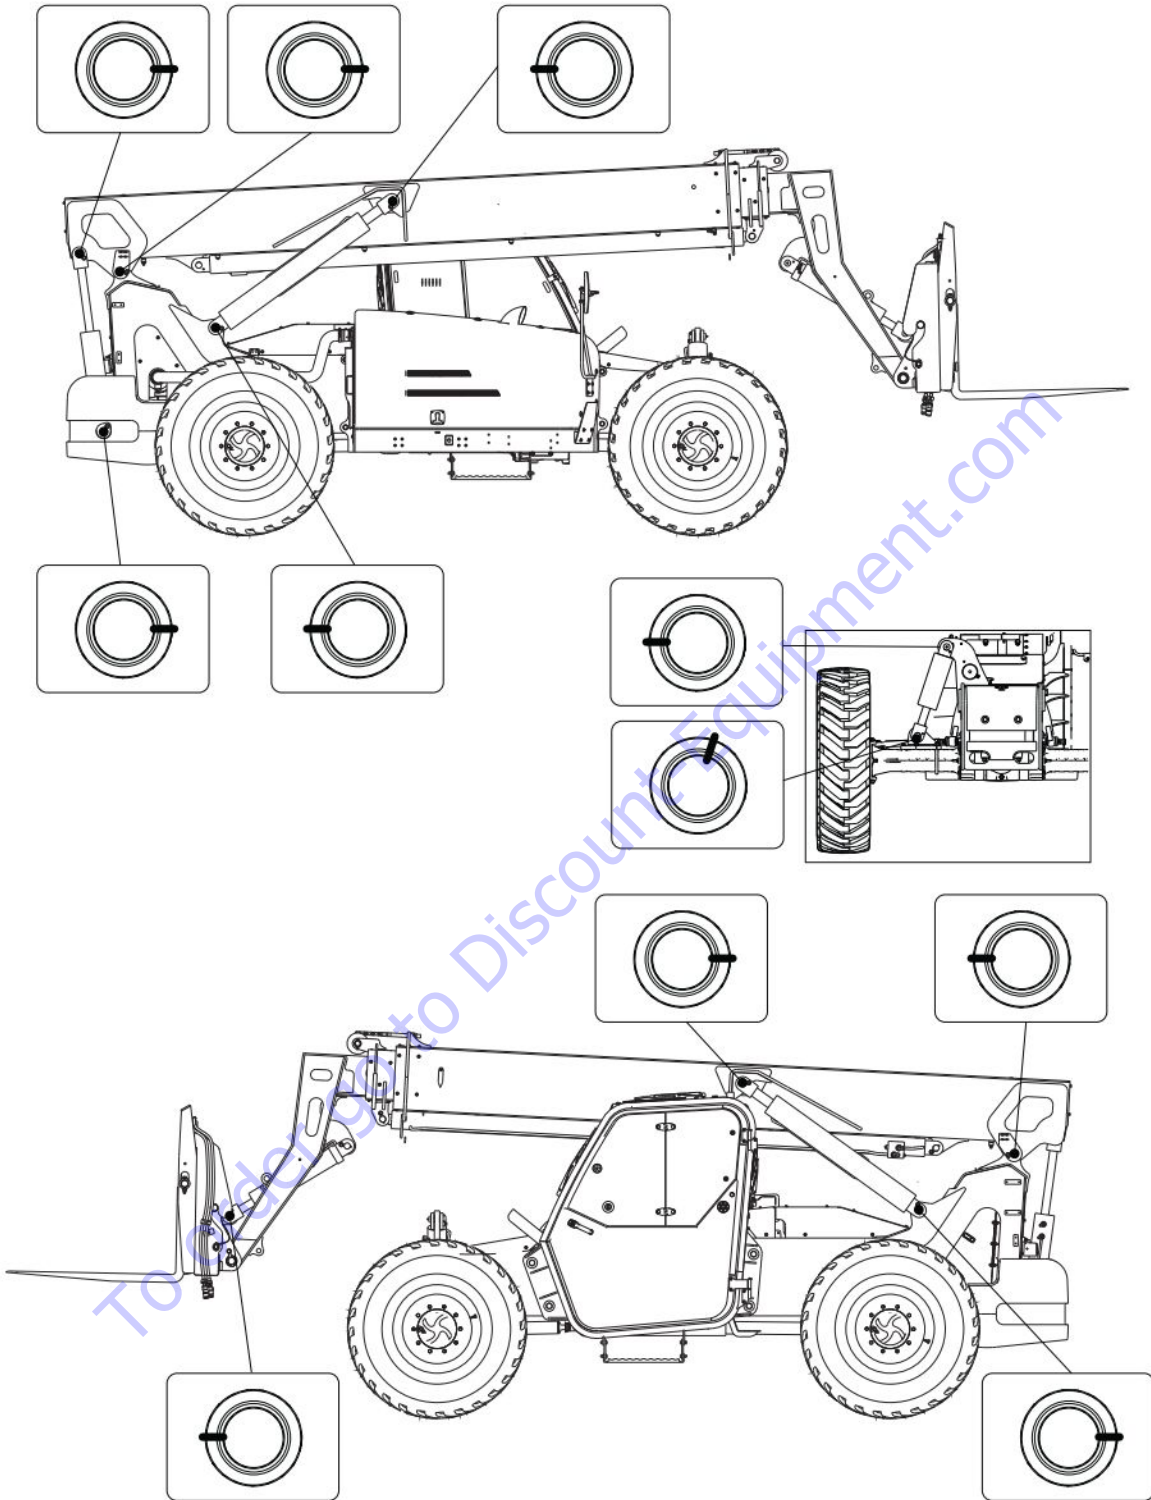

Figure 126 Bearing Orientation
3. Identify the split line in the outer race of the bearing. Refer to Figure 126 to install the bearing in the correct orientation.